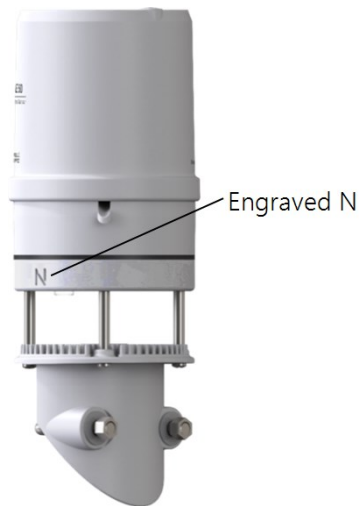

FIGURE 7-3. Engraved N on the ClimaVUE 50
- Orient the ClimaVUE 50 so that the engraved **N** points to True North (FIGURE 7-3 (p. 16)). Determining True North and sensor orientation (p. 38) contains detailed information on determining True North using a compass and the magnetic declination for the site.